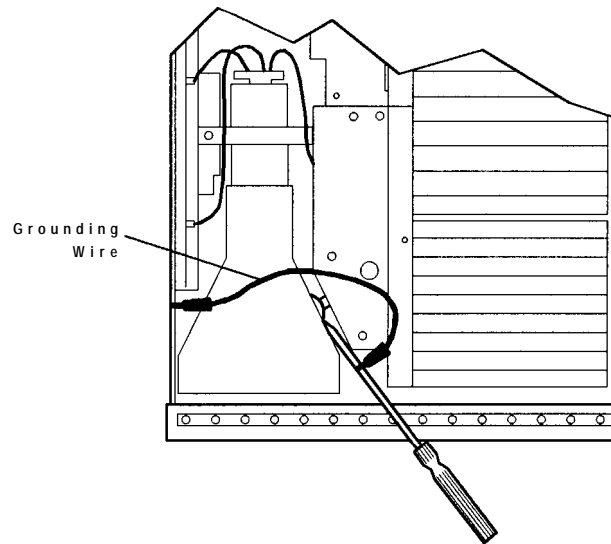

Figure 3-15. Discharging the CRT Post-Accelerator Cable
4. Slide the screwdriver's blade between the CRT and the sheet metal as shown in Figure 3-15. Gently work the tip of the screwdriver under the post-accelerator cable's rubber shroud. Make sure that the screwdriver's tip touches the connection between the postaccelerator cable and the CRT. You should hear a cracking sound when the cable discharges.